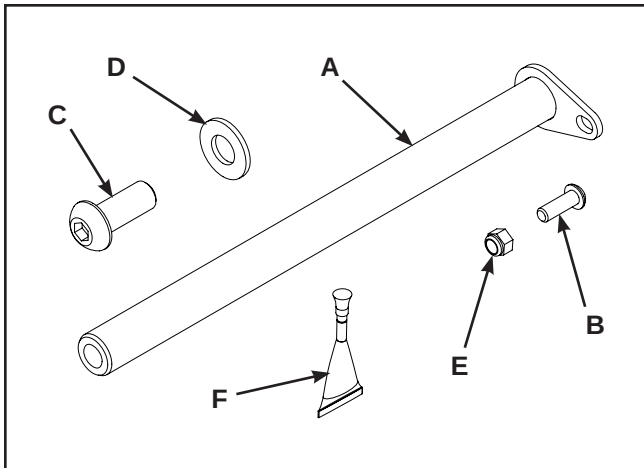

Figure 1
2. Verify kit contents. See Figure 1.
- A. Shaft, (1), 425A-216
- B. BHSCS .250-20 X .75, (1), JC620415
- C. BHSCS .500-13 X 1.25, (1), JC780420
- D. Washer SAE .500, (1), HS387700
- E. Nylon locknut .250-20, (1), HN625200
- F. Loctite, (1), YA000201